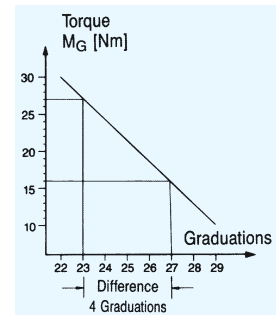

Fig. 3
- Manually screw on adjusting nut (1) until contact is made with the cup springs (7).
- Continue turning until the 4 graduations (5) at the circumference of the adjusting nut (1) and the notches in the retaining ring (6) are in line with each other.
- Using a face wrench, turn the adjusting nut (1) through the number of graduations corresponding to the required torque (Fig. 3) (number of graduations as per setting diagram).
- The graduations at the circumference of the adjusting nut (5) and retaining ring (6) must remain in the same position.
- Put Loctite 242 onto the retaining screw (2) and screw it into the adjusting nut (1).